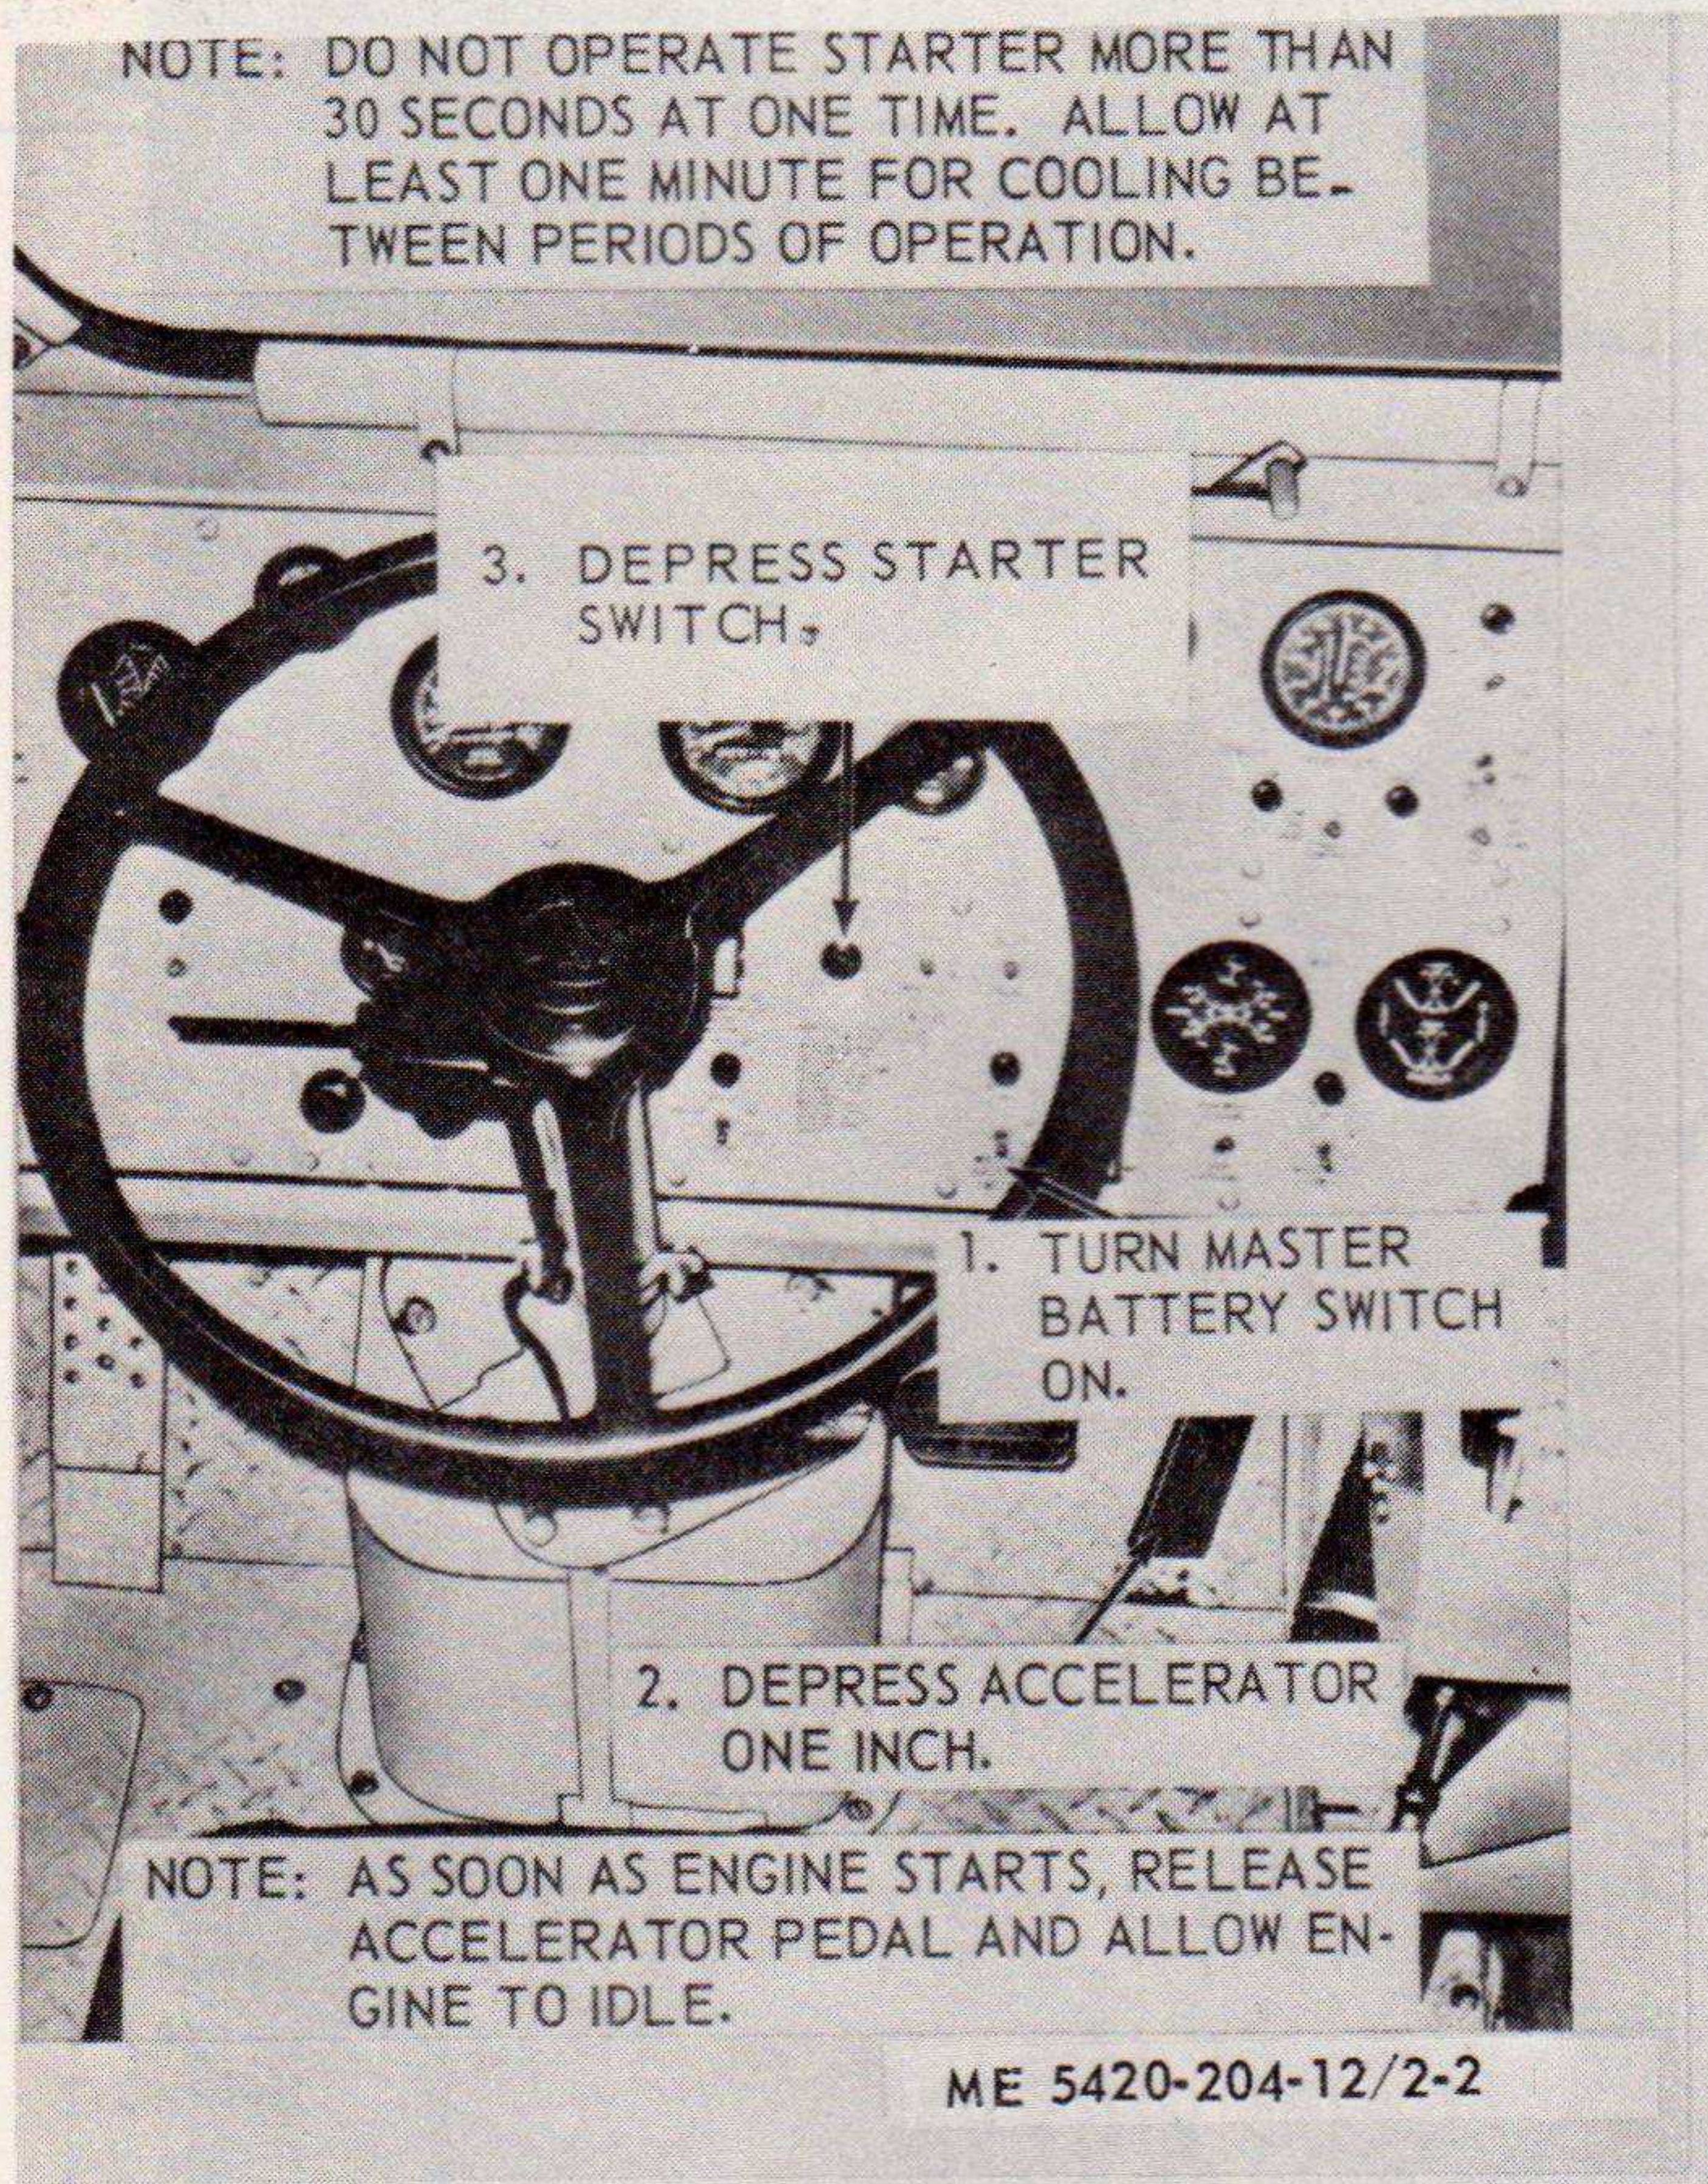
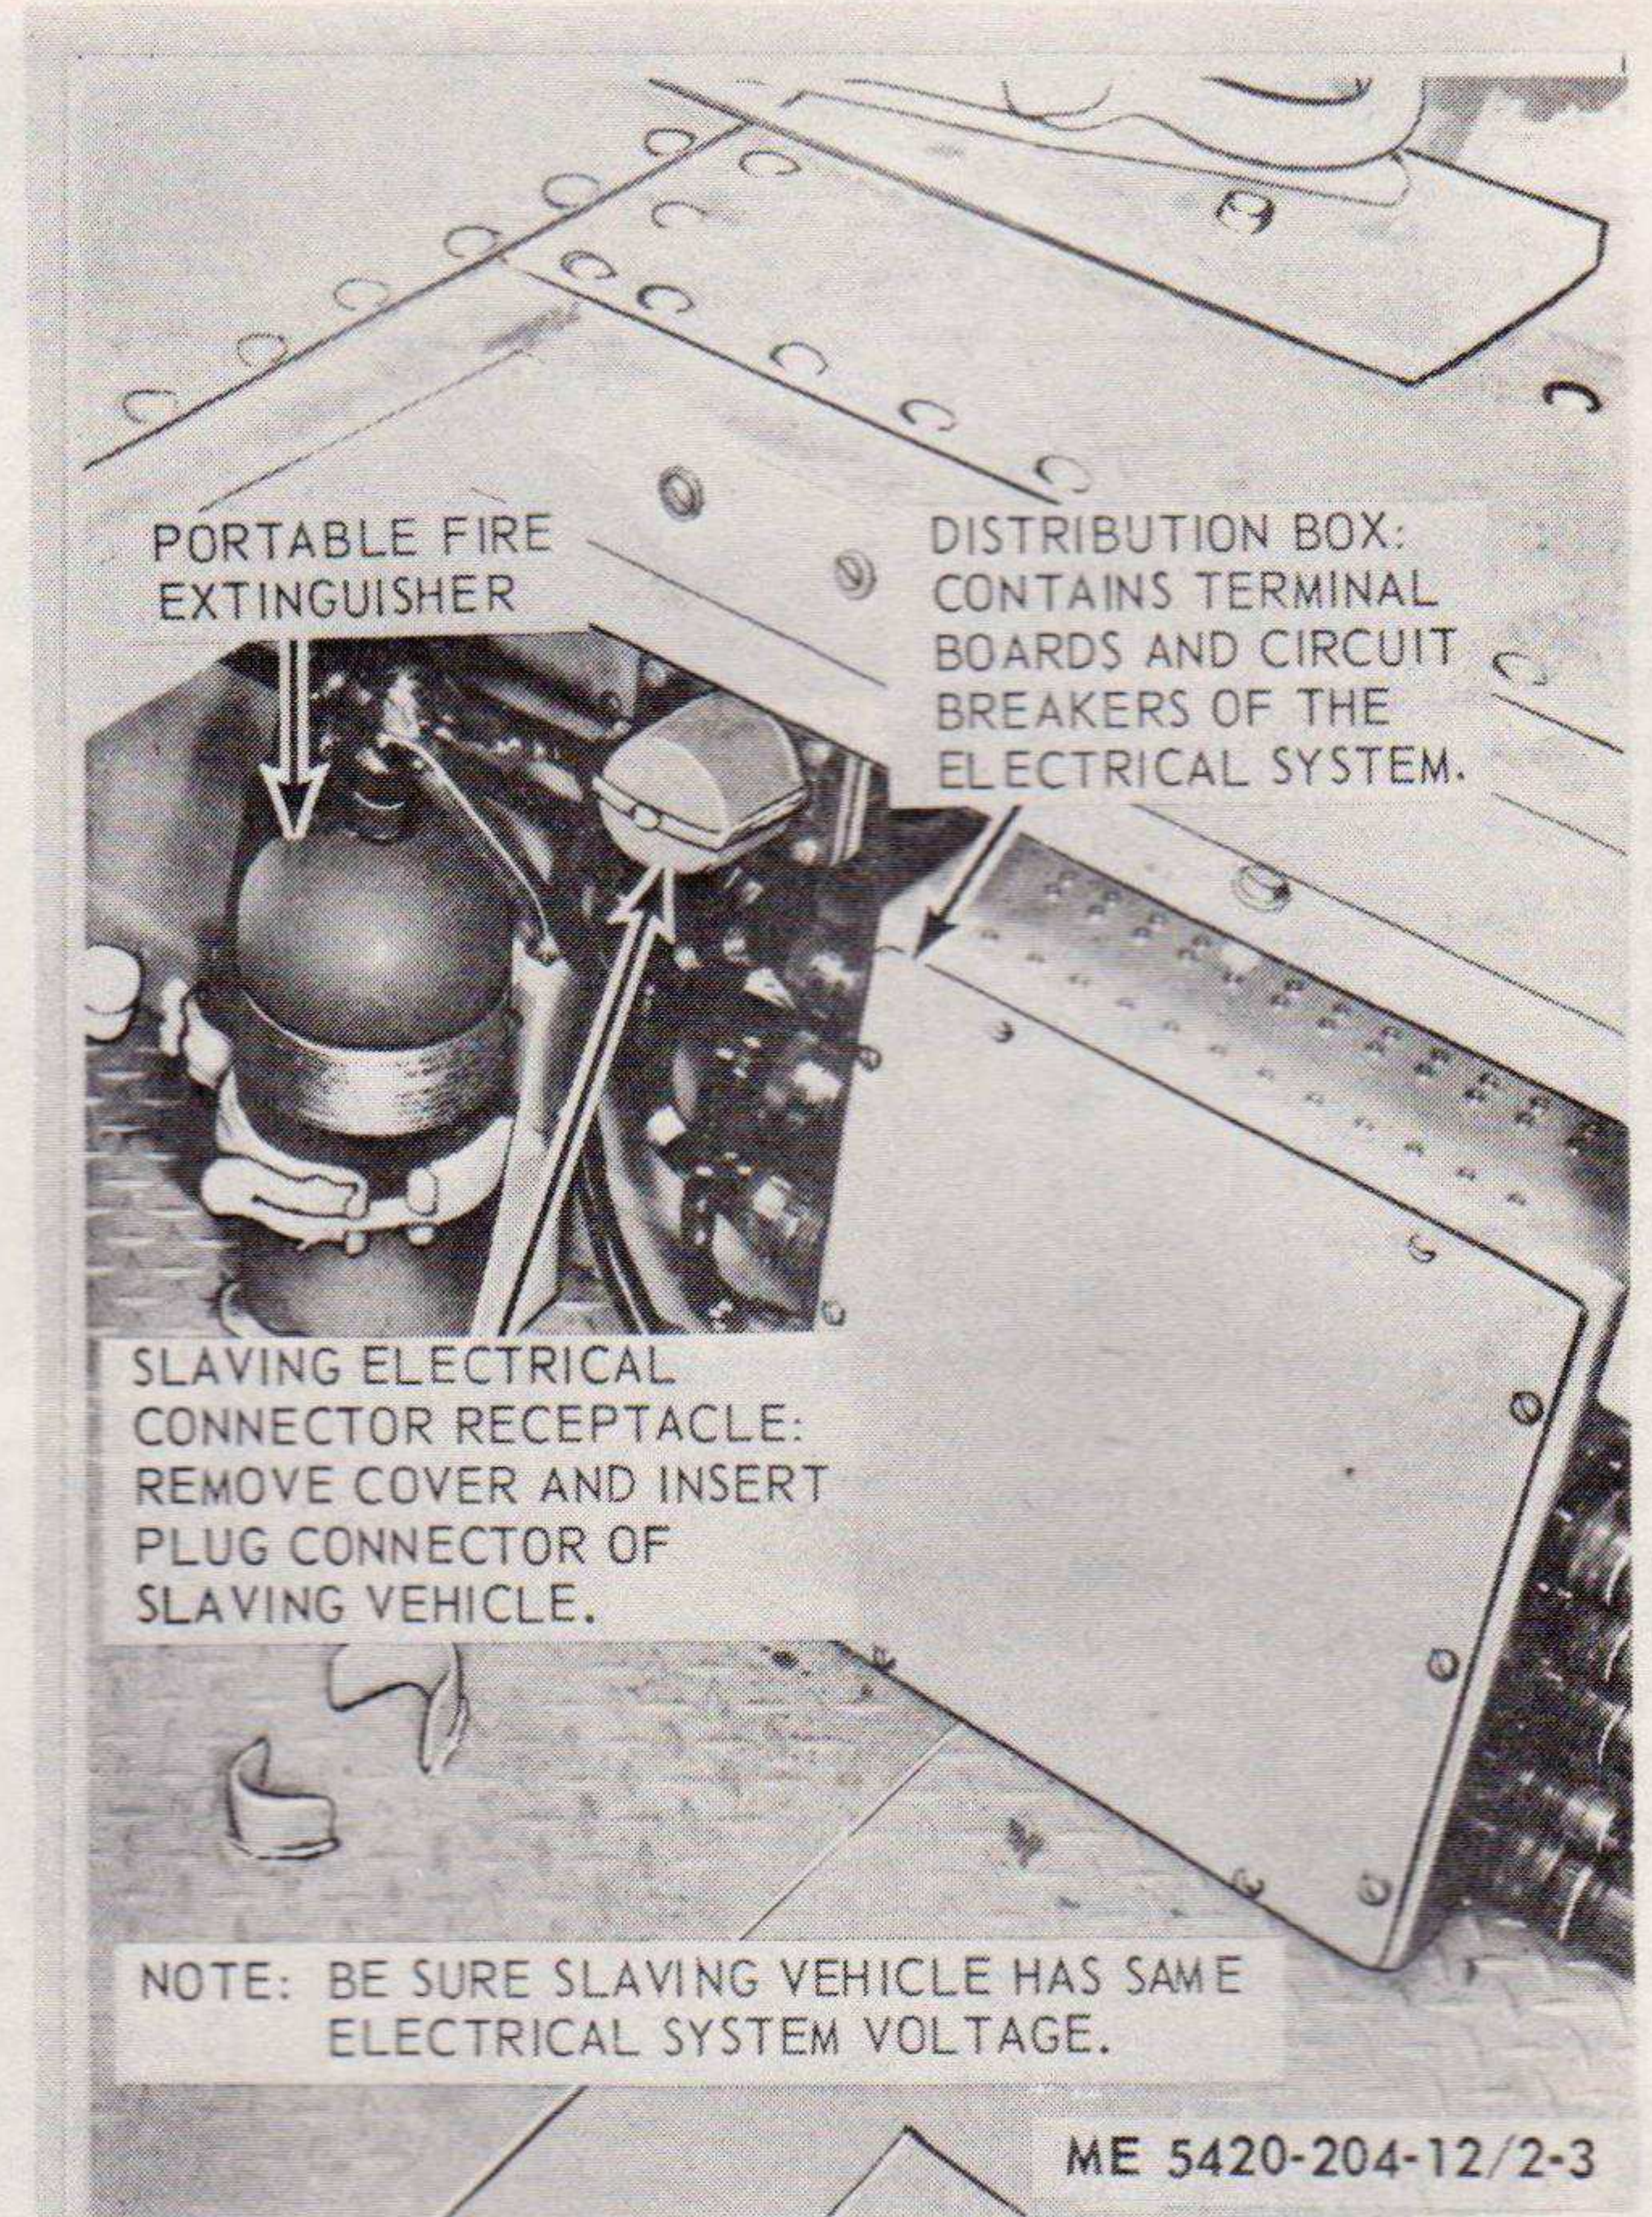

Figure 2-2. Starting the engine.
Figure 2-3. Slave receptacle for starting engine, and distribution box, installed view.
b. *Normal Starting.* Refer to figure 2-2 and start engine.
- (1) Refer to figure 2-3 for location of electrical connector receptacle.
- (2) Turn master switch OFF on vehicle to be slaved.
- (3) Connect slave cable to slaving vehicle, then to vehicle being slaved.
- (4) Start engine as described in figure 2-2.